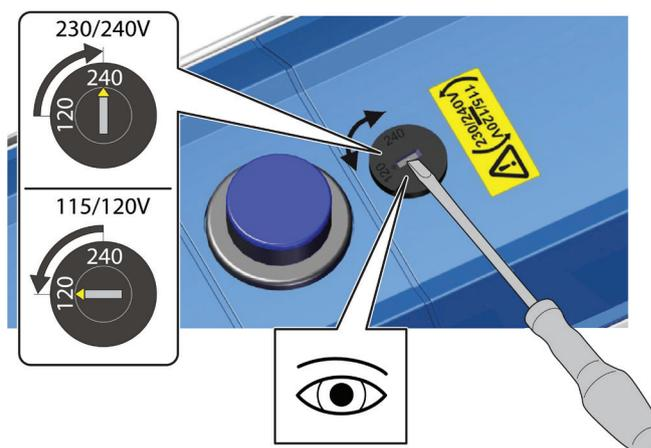

Figure 11. Voltage selection switch.
- » Ensure that the voltage selection switch on the vacuum pump (located next to the power button) is set correctly before you connect the pump to a grounded (earthed) power outlet; "115/120" corresponds to 100-120 V and "230/240" corresponds to 200-230 V. See Figure 11.